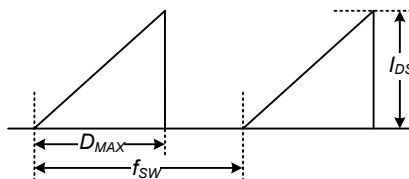

Figure 4. Repetitive Peak Switching Current
6. Repetitive peak switching current when the inductive load is assumed: Limited by maximum duty ($D_{MAX}=0.75$) and junction temperature (see Figure 4).